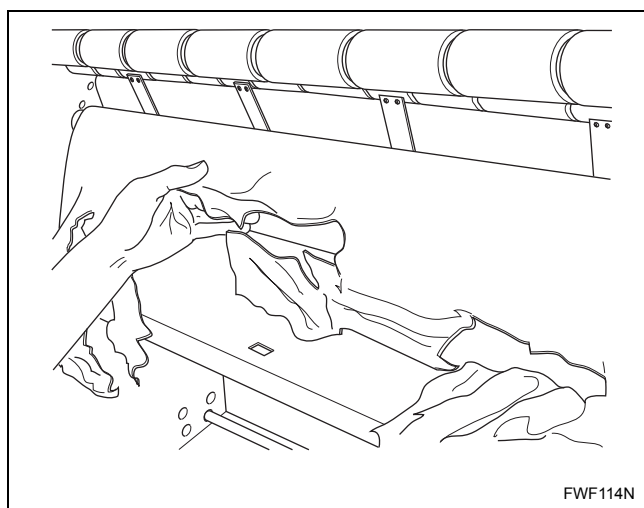

Figure 17
- d. Guide protective paper out of machine. Refer to *Figure 17*.